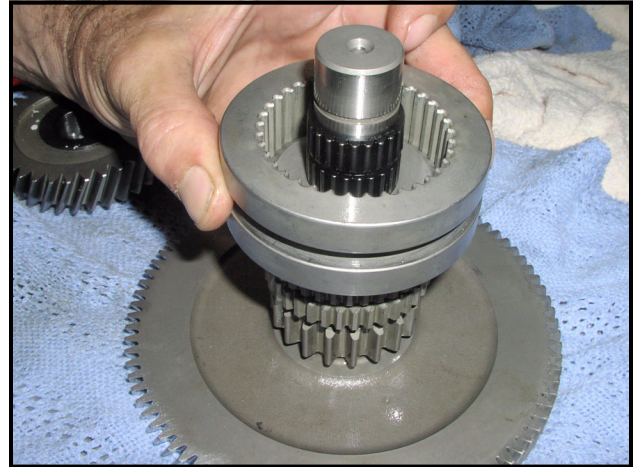

Figure 8-70 Splined Engagement Gear
11. Slide the splined engagement gear ring onto the splined intermediate shaft and small chain sprocket (**Figure 8-70, Page 8-21**).